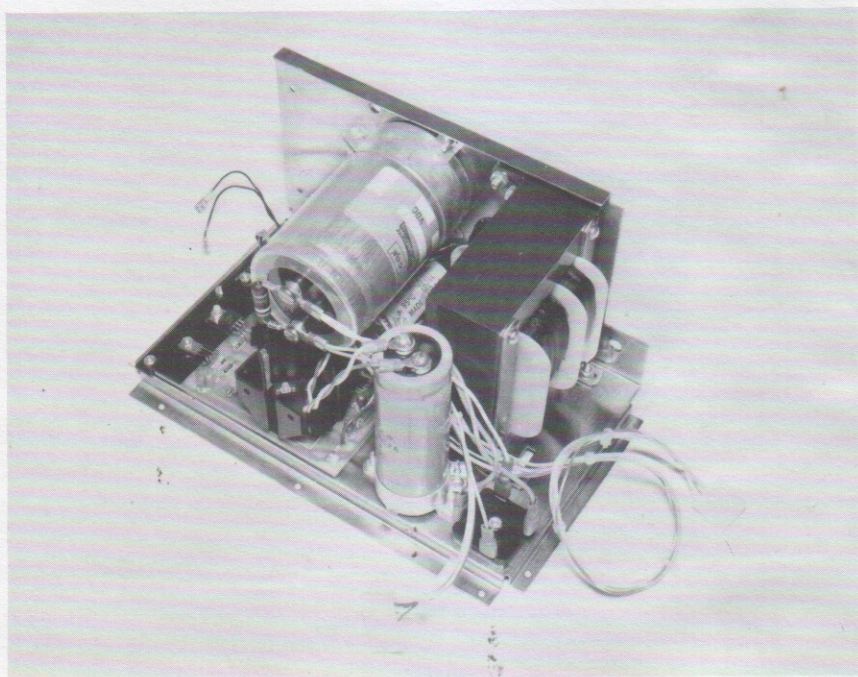

Figure 2-5. Sol-20 power supply subchassis assembly.
Position ring over the three mounting holes in the side wall of subchassis so the clamping screw faces the bottom of subchassis and so it will be accessible from the Sol-REG end of the subchassis. Insert three 6-32 x  $\frac{1}{2}$  binder or pan head screws from outer side of side wall through the mounting holes. Place #6 lockwasher on each screw and secure with 6-32 hex nut. Figure 2-5 shows an assembled Sol-20 power supply subchassis.
- \*(✓) Step 39. Mount C9 in its mounting ring and tighten clamping screw. (See Figure 2-5.)
Solder a #10 lug to each lead of R13. Bend leads of R13 to fit the terminals of C9. (R13 should fit on C9 as shown in Figure 2-5.)